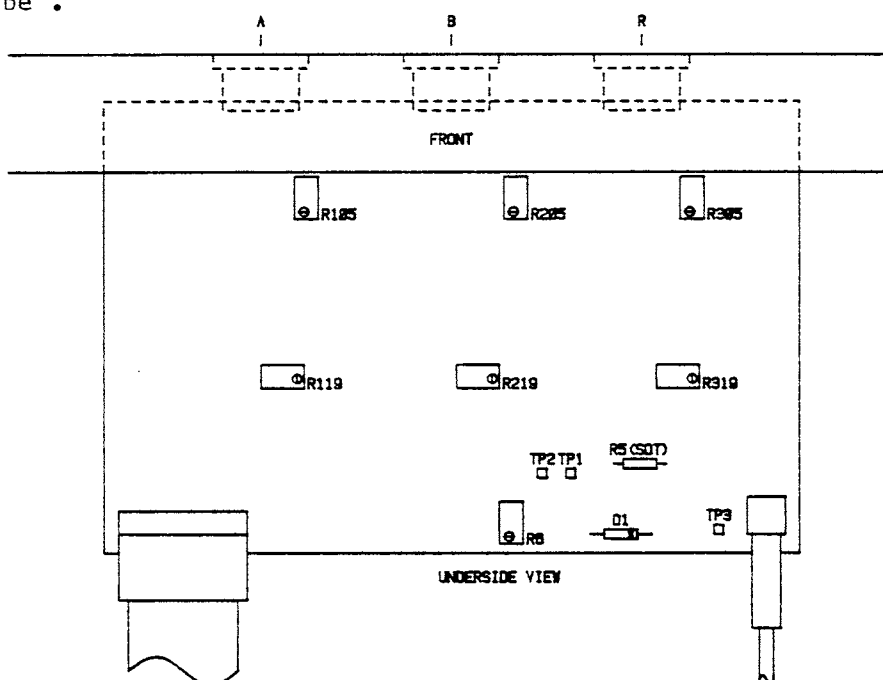

Fig. 9 Calibration component location chart (AF03)
74. Switch on all equipment and allow 30 minutes warm-up. Referring to Fig. 9 component layout for AF03/1, measure the Zener diode reference voltage D1 and re-select the value of resistor R5 if the voltage obtained and resistor value do not coincide with the value given in Table 3.